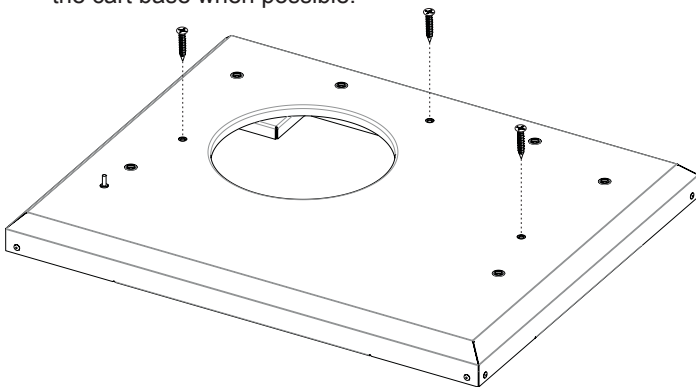

Figure 2
2. Determine the location for the grill. Ensure proper clearances to combustibles as recommended in the grill head manual. Use three drywall or deck screws of at least 2-1/2 inches in length to fasten Base Assembly to deck. The screws will protrude 3/4 inch into the deck. See Figure 2. Note: It is always recommended to use longer screws to secure the cart base when possible.